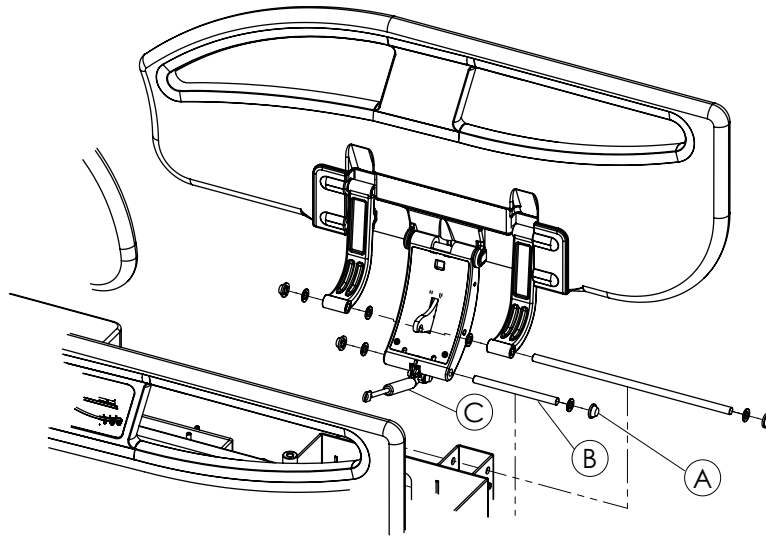

Figure 11 – Foot end siderail gas cylinder
7. Using a large flat screwdriver and a hammer, remove one of the push nuts (A) that secures the bottom of the foot end siderail gas cylinder to the siderail mechanism (Figure 11).
8. Remove and discard the pivot pin (B) and foot end siderail gas cylinder (C) (Figure 11).